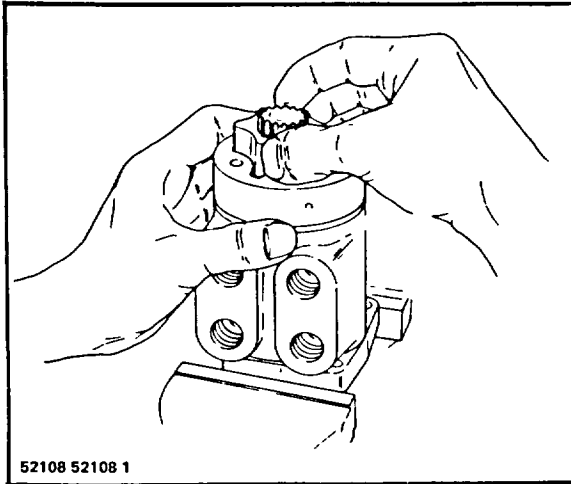

Figure 3-9. Installing Meter Gear Star
18. Note the direction of the cross pin in the spool-sleeve assembly and install the cross slot end of the drive to mesh with the cross pin (Fig 3-9).
19. Place the spacer (23) in position at the end of the meter gear star. If the spacer does not fit flush with the gear surface, the drive has not properly engaged the cross pin in the spool-sleeve assembly. Realign the drive if necessary.
20. After the drive and spacer are properly installed, place the seal (19) in the end cap (24) and position the end cap, with the boltholes aligned, on the control unit. Install 2 capscrews, finger tight, to maintain alignment.
- a. Install the check ball retainer (13) and the check ball (12).
- b. Install new seals (11, 9) on the check ball seat (10) and install the check ball seat.
- c. Install the check valve set screw (8) and tighten to 100 lb-in (11 N-m) of torque. The face of the set screw should be flush with, or below, the surface of the housing face.